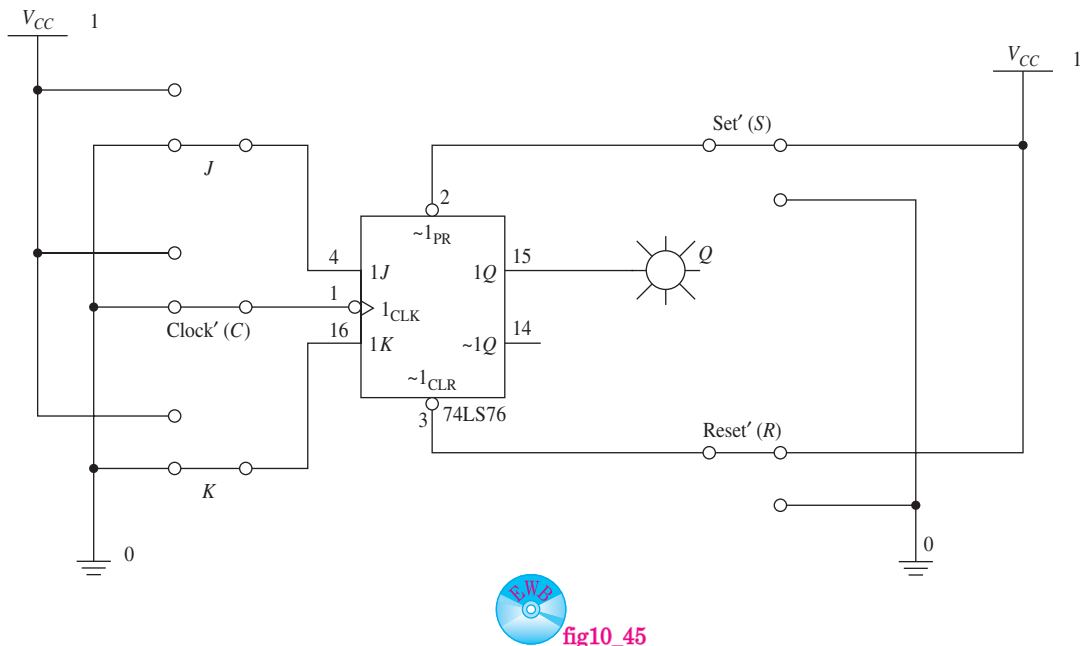

Figure 10–45 Using MultiSIM® to simulate 74LS76 J - K flip-flop operations.
- Load the file *fig10_45* from the textbook companion website. Run the simulation and press the C key twice to apply a negative edge clock. Because J - K were 1–1 before the clock edge, the Q output LED remains unchanged (Hold mode).